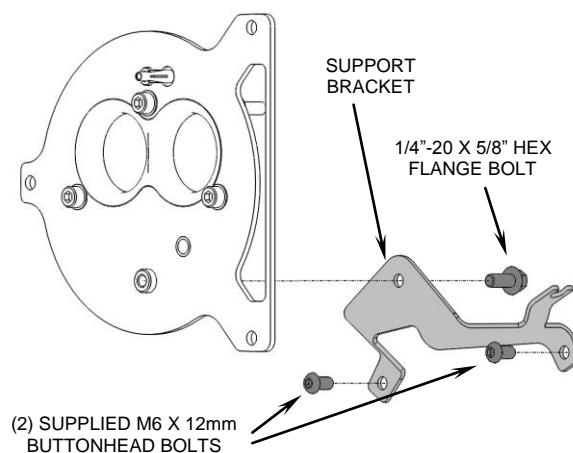
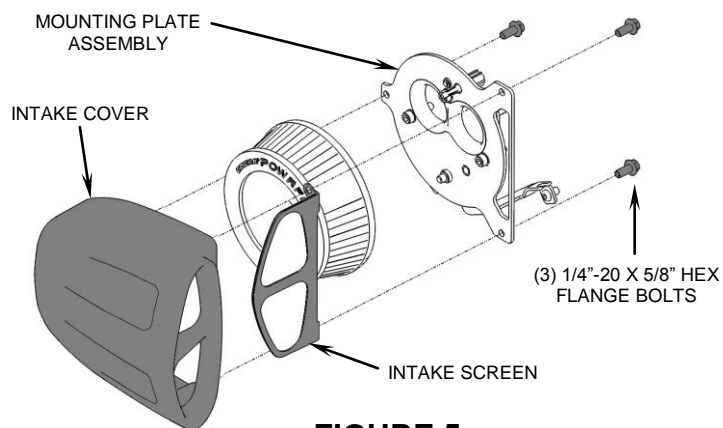

FIGURE 4
FIGURE 5
8. Install the supplied support bracket to the two threaded bosses near the base of the cylinders using the (2) supplied M6 x 12mm buttonhead bolts. Secure the support bracket to the mounting plate using the (1) supplied 1/4" hex flange bolt, and finger tighten. See Figure 4.
9. Fully tighten the (3) M6 x 25mm allen bolts, from Step 7, followed by the support bracket bolts, from Step 8.
11. Insert the intake screen into place so the holes in the bent tabs align with the threaded bosses in the intake cover, see Figure 5 for orientation. Place the supplied K&N® filter into the intake cover.
12. Place intake cover over the mounting plate and align the mounting holes to the threaded bosses. Insert (3) supplied 1/4" hex flange bolts and tighten the mounting plate to the intake cover. See Figure 5.